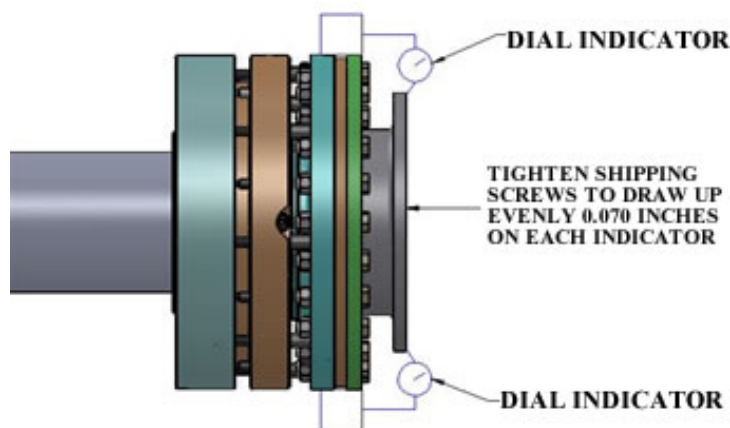

Figure 7 - "Drawing up" the Diaphragm Pack Subassembly
3.2.1 Loosen the shipping screw jam nut and the shipping screws. Use (2) dial indicators placed 180° apart to measure deflection between the outer flange of the diaphragm pack and the coupling guard as shown in Figure 7. Tighten the shipping screws to draw up (or compress) the diaphragm pack .070 inches on each of the dial indicators.